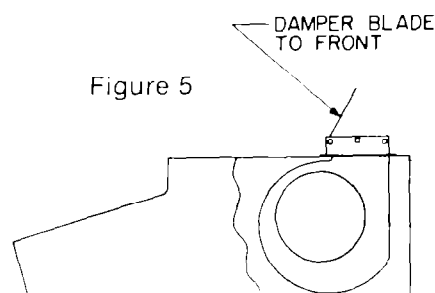
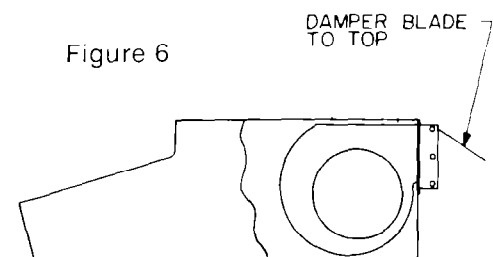

Figure 5
Figure 6
9. Attach the damper as shown in Figure 5 for vertical discharge or Fig. 6 for horizontal discharge.